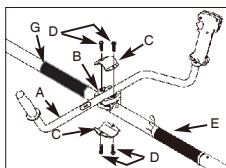
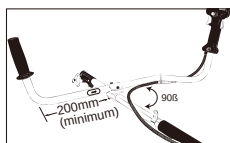

Fig.1A
Fig.1B
1. To install handle onto unit, you will need the following components from your user kit: "Bullhorn" handle (A), fixing holder (B), clamp (C) and screws (D). (Fig.1A)
2. Install the fixing holder (B) between the sponge sleeve (E and G), and adjust it to a proper position.
3. Install the Bullhorn handle (A) on the fixing holder, put the other clamp (C) over bullhorn-handle, adjust handle to appropriate position and tighten the other 2 screws (D). The left handle shall be at least 200mm horizontally perpendicularly from the shaft tube. The handle shaft must be mounted on the right side of direction of arrow head on the handle shaft. (Fig.1B)